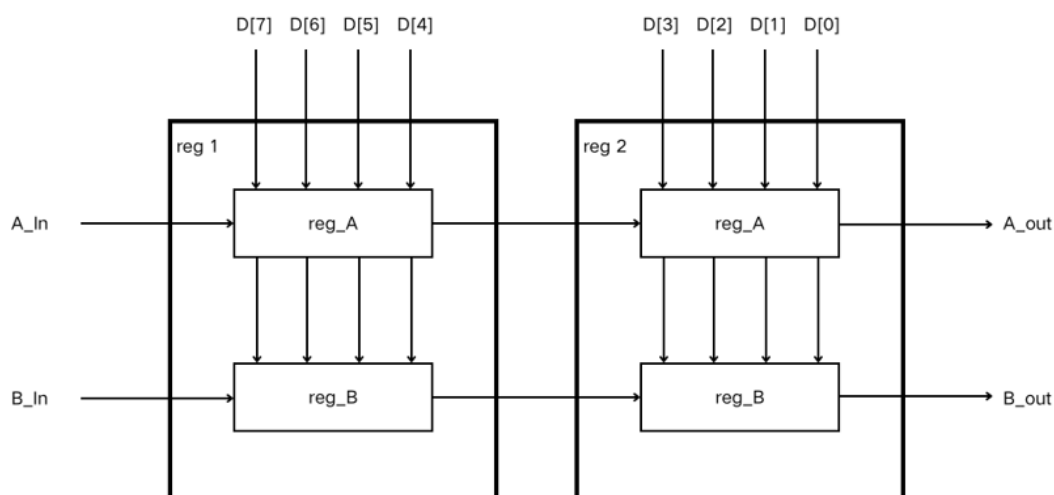

Fig.14 8-bits shift register using two 4-bits
**Description:** It put two instances of register\_unit in parallel by connecting the output of the first to the input of the second register, so that it can stores 8-bits information, as shown in Figure 14.